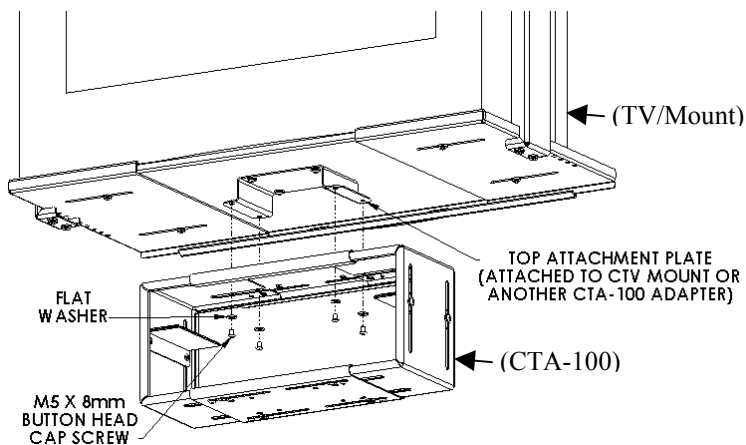

Figure 7. Connect CTA-100 to TV/Mount
2. Install four flat washers (70), four M5 X 8mm button head cap screws (60) into the top attachment plate (10). Tighten the screws. See Figure 7.